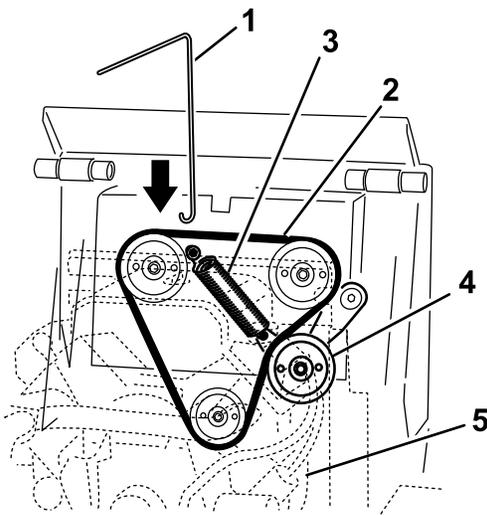

Figure 50
- Connect the hook on the spring-removal tool to the hook on the idler pulley spring, and disconnect the spring from the stud as illustrated in Figure 50.